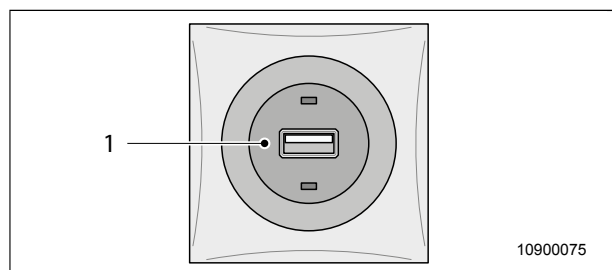

Fig. 55 USB socket
Some models are equipped with USB charging ports (Fig. 55, item 1) in the living area. Only devices supporting this type of charging may be connected to the USB charging ports.